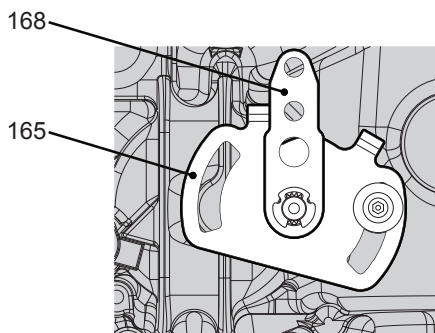

Figure 5, 2-Speed Control Arm
2. Remove the Original Equipment Manufacturer's (OEM's) control linkage at the 2-speed control arm (168). Position the 2-speed control arm (168) so it is in the normal speed (vertical) position. Refer to Figure 5.